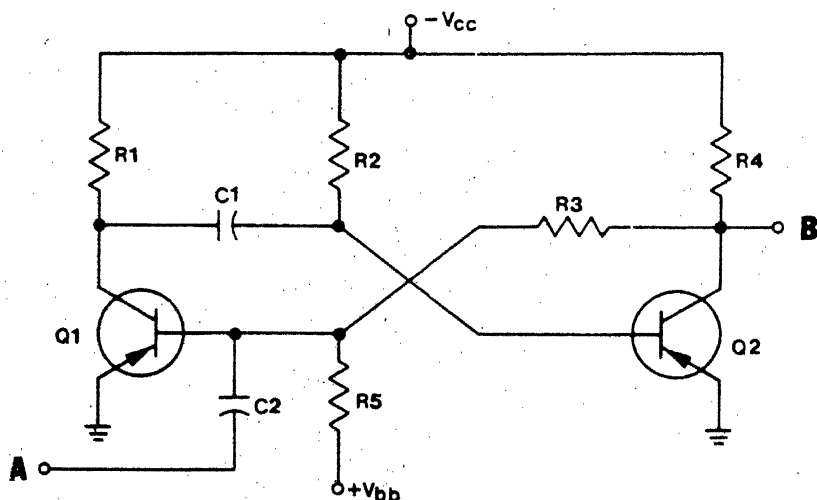

Figure 1
2. Before a trigger is applied to the circuit in figure 1, Q1 will be (cut off/saturated) and Q2 will be (cut off/saturated).
3. To change the state of the circuit in figure 1, a \_\_\_\_\_ pulse would be applied at the input.
5. In figure 1, point A is the (input/output) and point B is the (input/output).
6. In figure 1, when Q1 is saturated the output will \_\_\_\_\_.
In questions 7 and 8 match the input triggers shown with the output wave forms. (Use the circuit represented in Fig. 1).
9. Refer to figure 1. The time duration of the negative output pulse is determined by